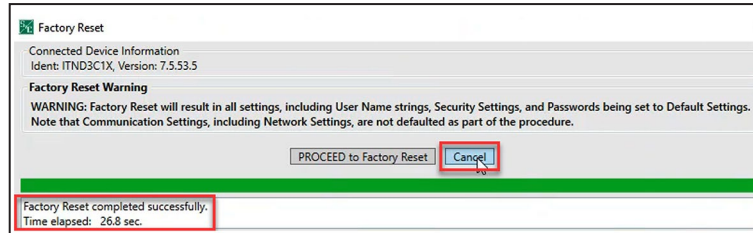

Figure 62. The Factory Reset completed successfully message.
STEP 5. When the Factory Reset procedure is completed, click on the **Cancel** button to complete the procedure. See Figure 62.